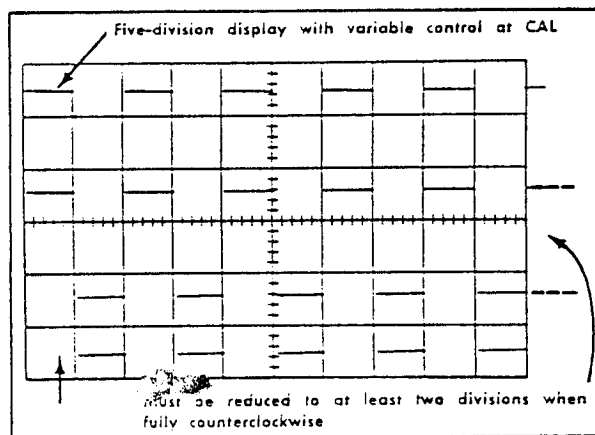

Fig. 6-22. Typical crt display showing correct VARIABLE VOLTS/DIV control range (double exposure).
- f. Check—Turn the Channel 1 VARIABLE VOLTS/DIV control fully counterclockwise. Display should be reduced to 2 divisions or less (see Fig. 6-22). UNCAL light must be on when VARIABLE control is not in CAL position.
h. Check—Turn the Channel 2 VARIABLE VOLTS/DIV control fully counterclockwise. Display should be reduced to 2 divisions or less (see Fig. 6-22). UNCAL light must be on when VARIABLE control is not in CAL position.